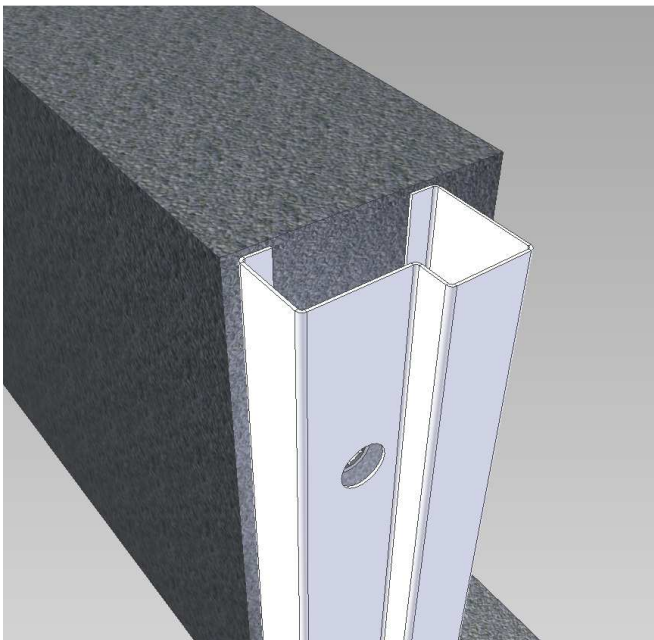

Fig 3
- Frame without Capping Channels, Fig 3